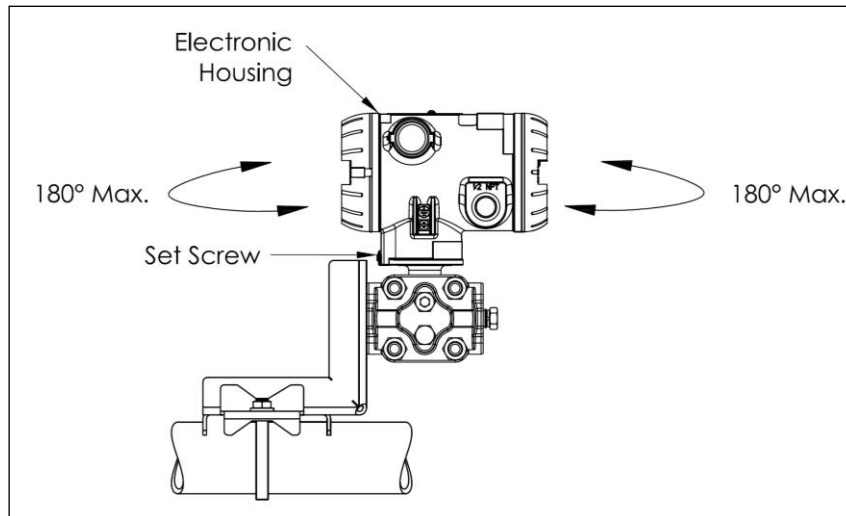

Figure 3-8: Rotating the Electronic Housing
3. Loosen the set screw on the outside neck of the Transmitter one (1) full turn.
4. Rotate the Electronics housing a maximum of 180° left or right from the center to the position you require, and tighten the set screw 8.9 to 9.7 lb-in (1.40 to 1.68 Nm), using a 4mm metric socket head wrench. See Figure 3-8.